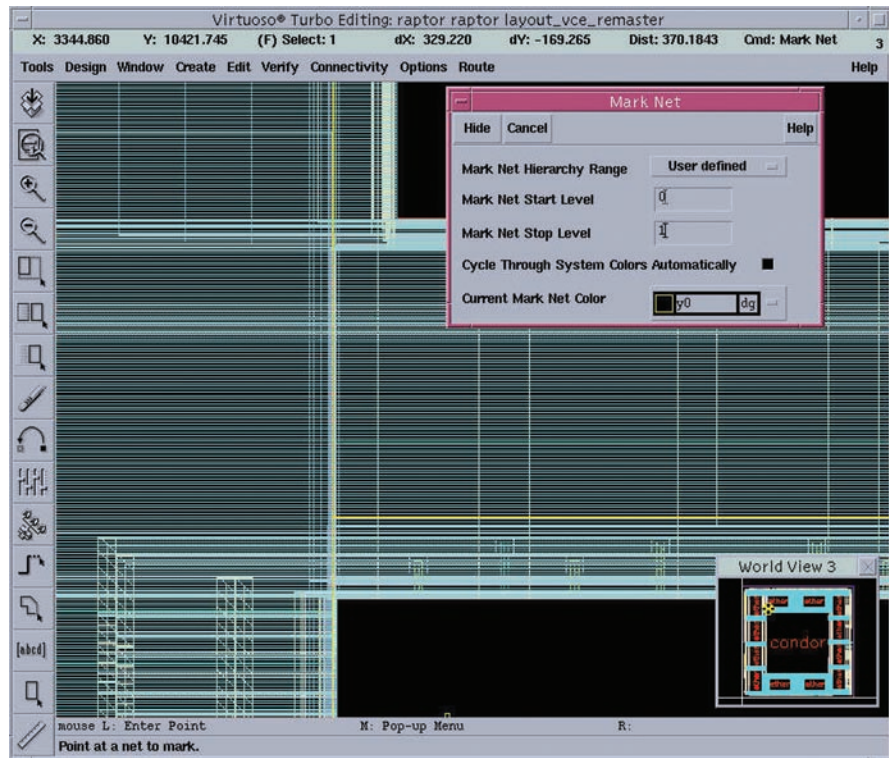

Figure 6: Mark net efficiently traverses the physical design hierarchy and performs continuity checking and highlighting
- Mark net continuity checking and highlighting (see *Figure 6* on next page)